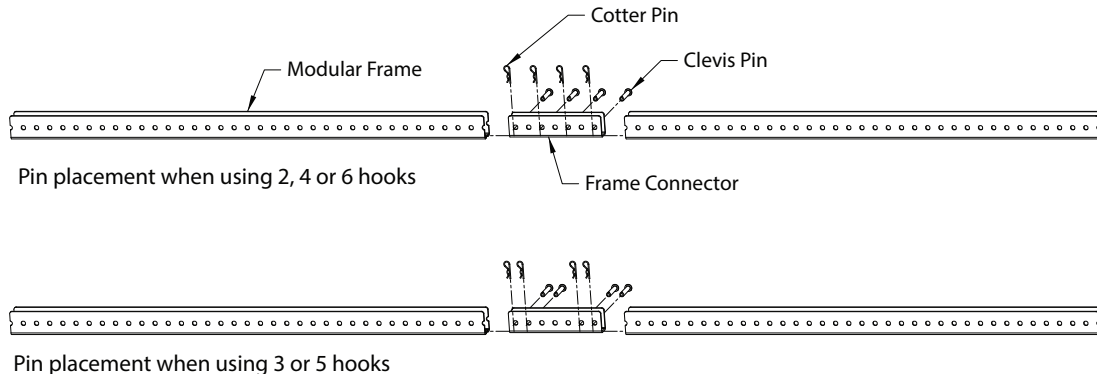

fig 1.1
4. Connect the modular frame pieces using the included cotter and clevis pins. Depending on how many bikes you plan to lift and store (which determines the number of hooks required) refer to fig 1.1 for proper cotter and clevis pin placement. Be sure each clevis pin is properly secured with a cotter pin.